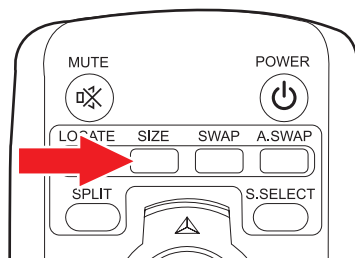

Figure 35. PIP Size
1. Press the SIZE button (refer to Figure 35).